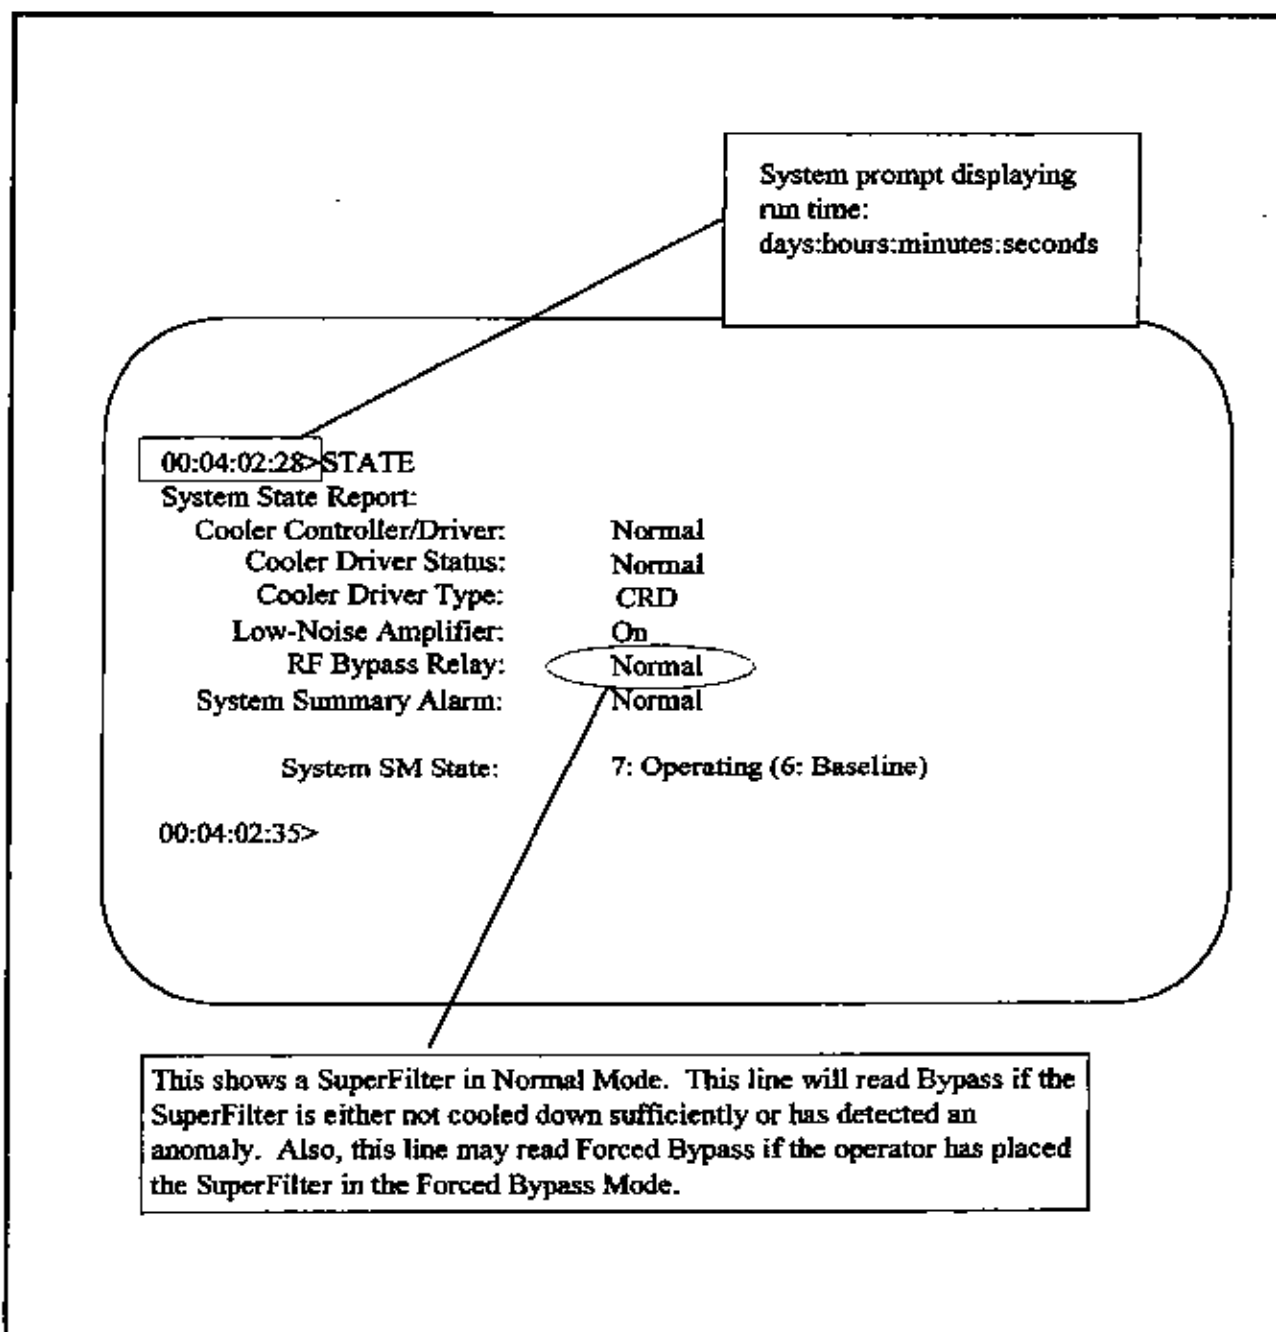

Figure 21. System State Report
5.	The Console Terminal display screen should show a System State Report like the example shown in Figure 21.
6.	With the STATE command issued, verify the SuperFilter is in System State Machine (SM) State: 7: Operating. This indicates the SuperFilter is operating normally. If System SM State does not read 7: Operating, call (800) 727-3648 extension 767, or (805) 683-7646 extension 767.